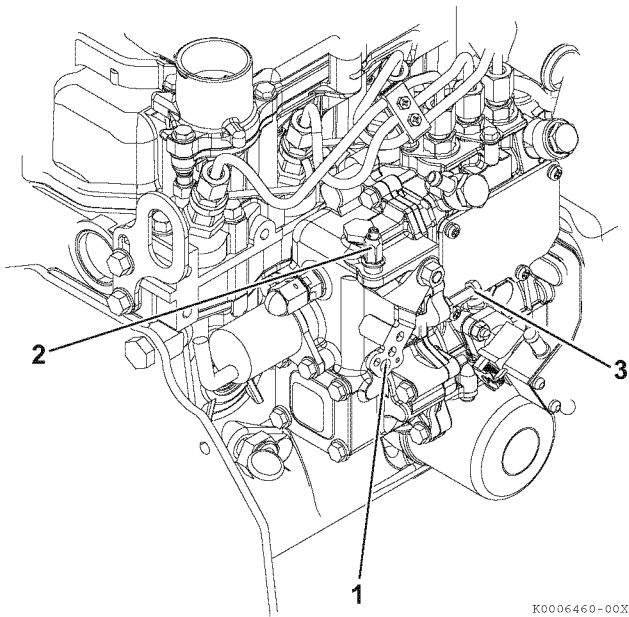

Figure 5-10
1. Check that the governor lever (**Figure 5-10, (1)**) makes firm contact with the high idle stop (**Figure 5-10, (2)**) and the low idle speed limit screw (**Figure 5-10, (3)**) when the engine speed control is in the FULL SPEED or LOW IDLE SPEED positions.